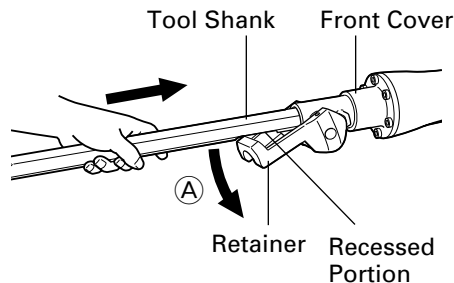

Fig. 5
(1) Clean, then smear the accessory shank portion with grease or machine oil.
(2) Move the retainer to position (A). Align the accessory shank portion so that its recessed portion is under clamp and seat the accessory such as a bull point, a cutter, etc., in the hexagonal hole in the front cover (See Fig. 5).